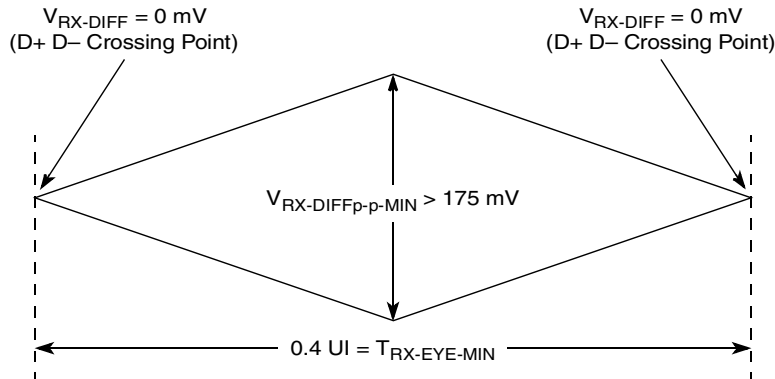

Figure 43. Minimum Receiver Eye Timing and Voltage Compliance Specification
2. Specified at the measurement point and measured over any 250 consecutive UIs. The test load in Figure 44 should be used as the Rx device when taking measurements (also refer to the receiver compliance eye diagram shown in Figure 43). If the clocks to the Rx and Tx are not derived from the same reference clock, the Tx UI recovered from 3500 consecutive UI must be used as a reference for the eye diagram.
The Rx eye diagram in Figure 43 is specified using the passive compliance/test measurement load (see Figure 44) in place of any real PCI Express Rx component. In general, the minimum receiver eye diagram measured with the compliance/test measurement load (see Figure 44) is larger than the minimum receiver eye diagram measured over a range of systems at the input receiver of any real PCI Express component. The degraded eye diagram at the input receiver is due to traces internal to the package as well as silicon parasitic characteristics that cause the real PCI Express component to vary in impedance from the
compliance/test measurement load. The input receiver eye diagram is implementation specific and is not specified. Rx component designer should provide additional margin to adequately compensate for the degraded minimum receiver eye diagram (shown in Figure 43) expected at the input receiver based on an adequate combination of system simulations and the return loss measured looking into the Rx package and silicon. The Rx eye diagram must be aligned in time using the jitter median to locate the center of the eye diagram.